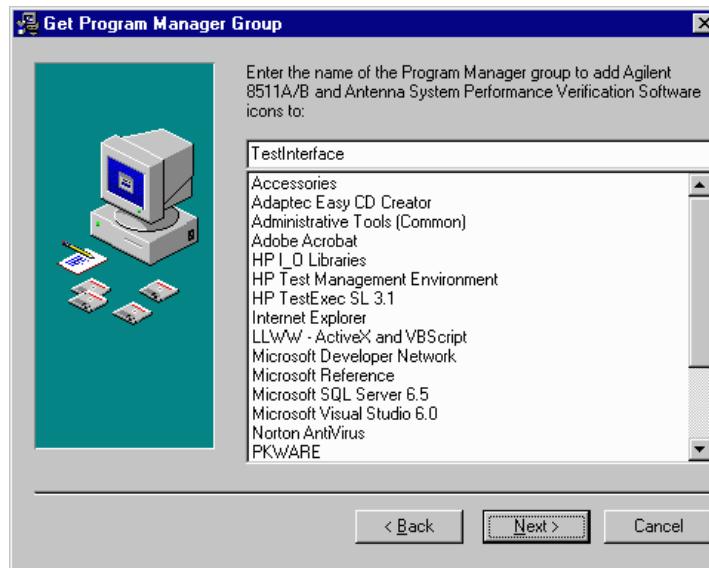

Figure 5 Get Program Manager Group Window
10. The **Get Program Manager Group** window is displayed. Click **Next>** to select the default program manager group (**TestInterface**). See Figure 5.